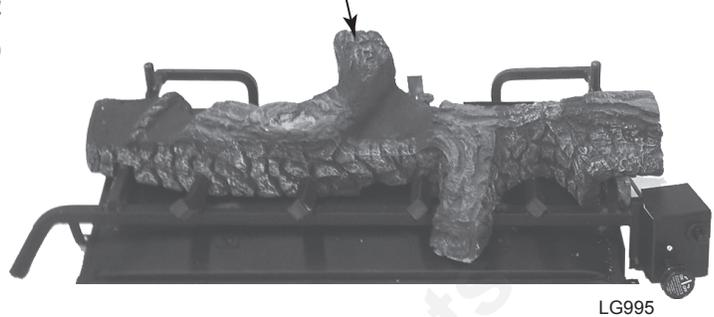

Figure 34
1. Place bottom front log (#2) on front of grate. *Figure 34*